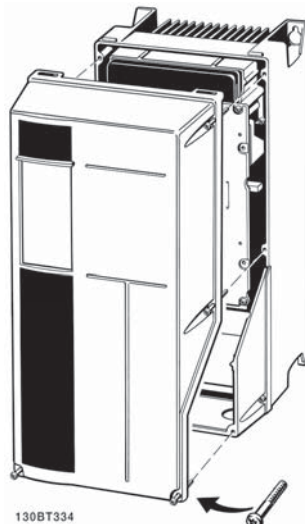

Figure 2.19 Control Wiring Access for A4, A5, B1, B2, C1 and C2 Enclosures
- Or remove front cover by loosening attaching screws. See *Figure 2.19*.